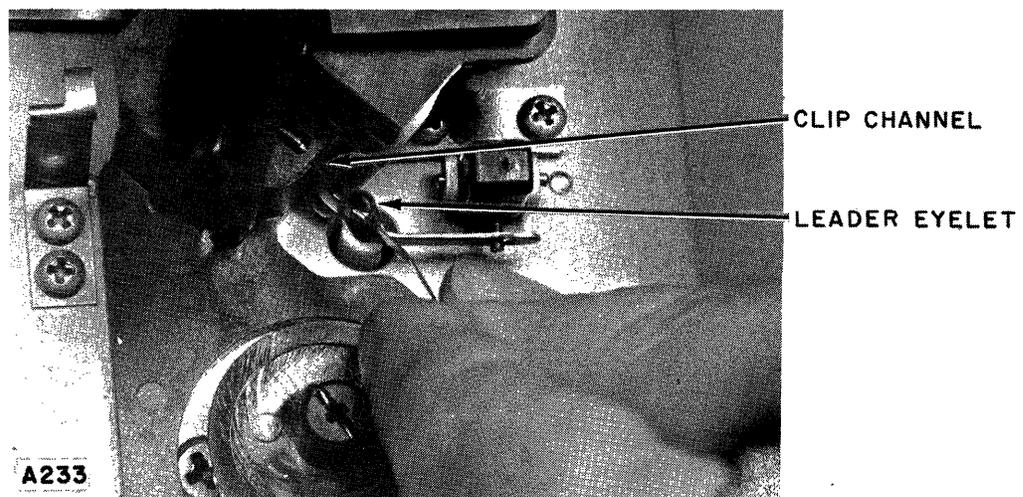

Figure 4-6. Inserting the Leader Eyelet in the Clip Channel
- h. With the locking lever in the lock position, insert the leader eyelet in the clip channel, as pictured in figure 4-6. Push the leader eyelet through the clip channel.